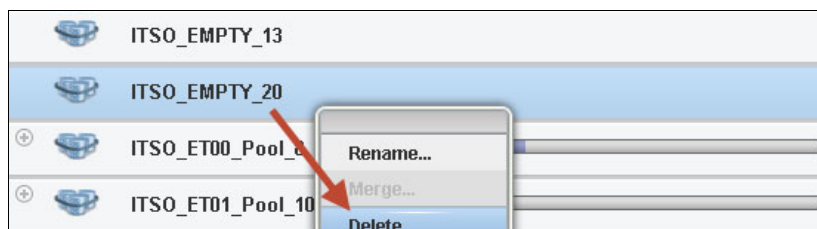

Figure 11-47 Delete one pool of the pool pair
3. Choose one of the pools from the recently created pool pair to delete, as shown in Figure 11-47.